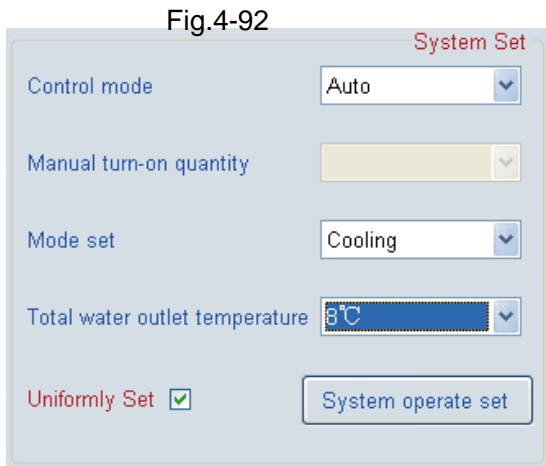
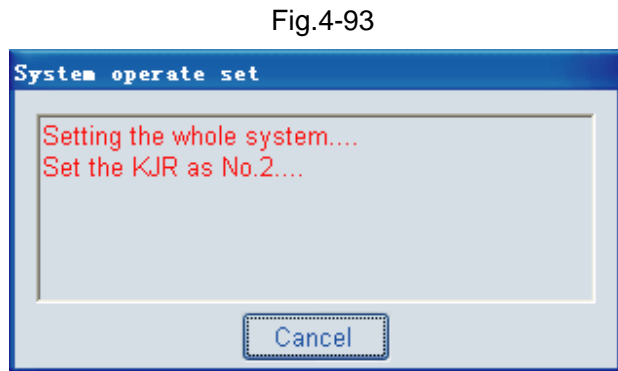

Fig.4-92
Fig.4-93
3) Uniformly set all wired controllers: Tick Uniformly Set as Fig. 4-92, and then select the corresponding parameters, click the System Operate Set, system starts to set up. A message box as Fig. 4-93 will display during the setting. Once successful setting, a message box as Fig. 4-94 will display to inform you Successful System Set, whereas, Failed System set as Fig. 4-95 will display. After all setting done, a message box (see Fig. 4-96) will display informing “Setting Finish”.